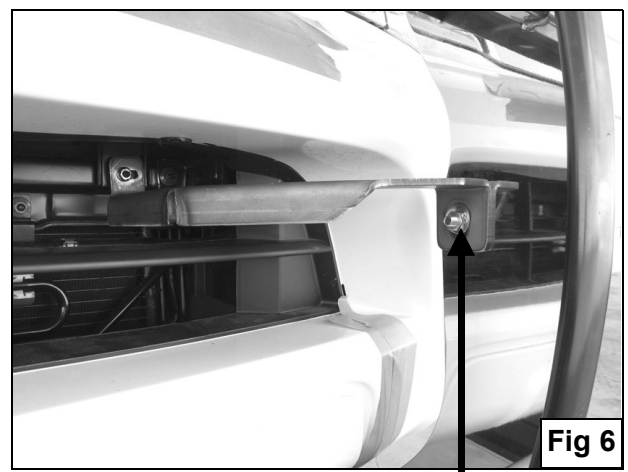

Fig 6
8. Attach Top Brackets to the inner side of Grille Guard Plates using the included (2) 10mm Allen Bolts, (2) 10mm Lock Washers, (2) 10mm Hex Nuts, and (2) 10mm Flat Washers (**Figure 6**).